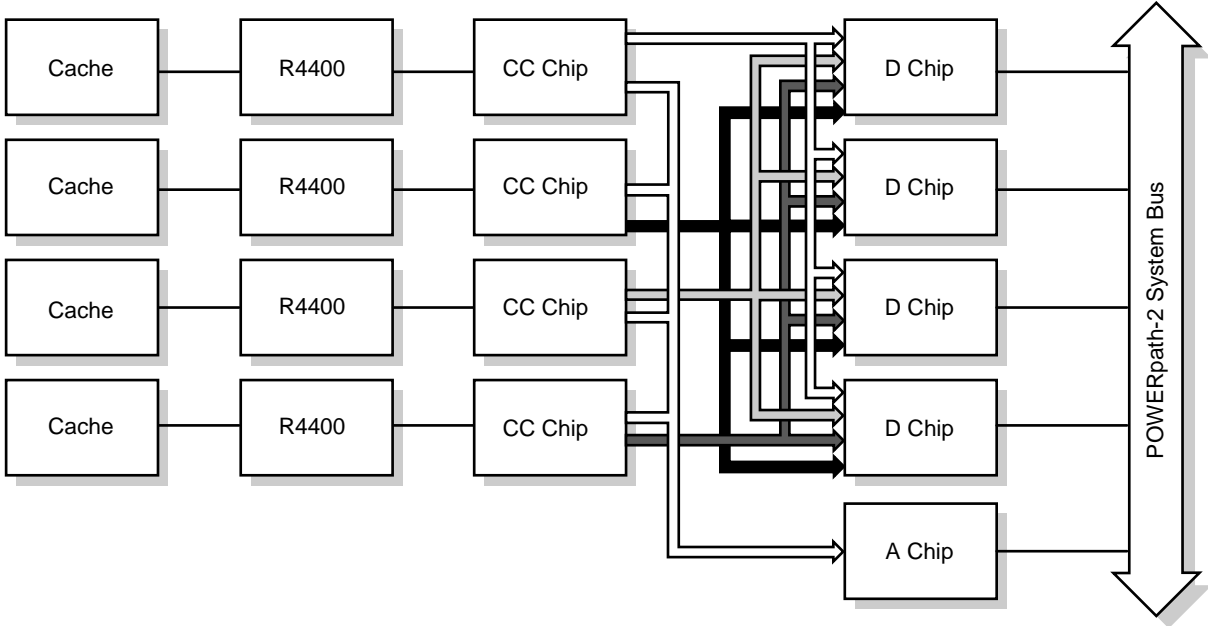

Figure 4-2 CPU Board Functional Block Diagram
dedicated supporting logic. This processor *slicing* allows each microprocessor to run cache-independent of the others. The only portion of the CPU board circuitry that is shared by the resident microprocessors is the bus arbitration logic. See Figure 4-2 for a functional block diagram illustrating the CPU board.
As shown in Figure 4-2, each CPU has its own secondary cache and a cache controller, the CC device. Each CPU is also connected to the Ebus through the address path (A) ASIC and four data path (D) ASICs.
4.2.2.1 Cache Controller (CC)